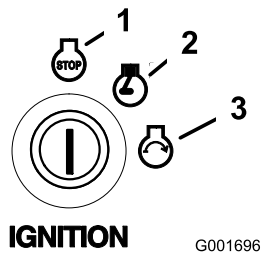

Figure 13
6. Turn the ignition key to Start (Figure 13). When the engine starts, release the key.
4. Turn the ignition key to the off position and remove the key (Figure 13).